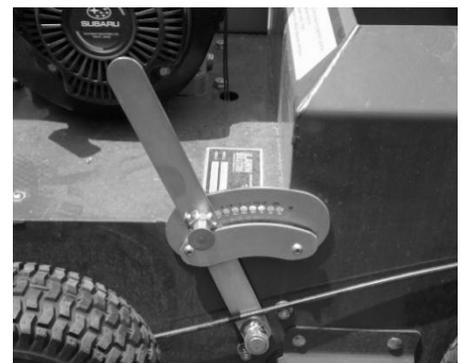

Figure 6.
- **Depth Control Lever** – The “Depth Control Lever” is used to raise and lower the blades. This allows a maximum range of blade heights. Pull on the spring plunger knob to release the lever and then lower and raise the blades to the desired position. See figure 6. **Do not force handle from side to side, it is made to move forward and backwards only.**